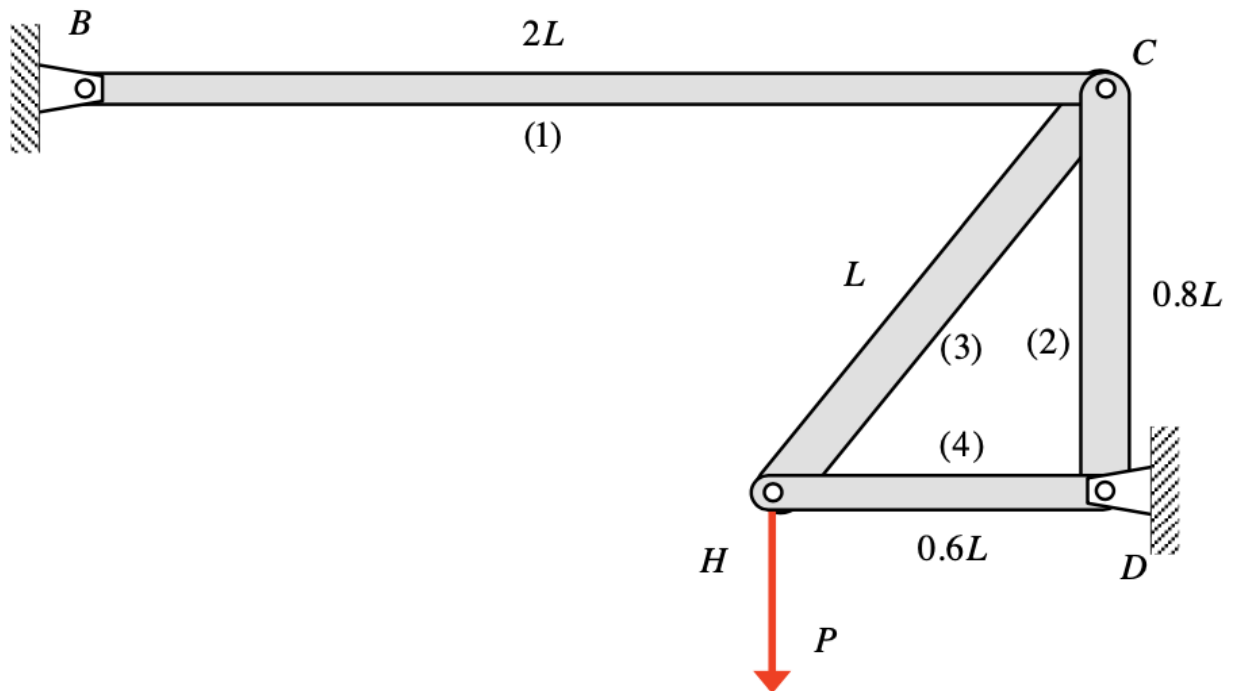

Figure 3: Truss for Problem 3
The truss shown below (*figure 3*) is supported by pin joints at B and D. Each member of the truss is made of the same material but has different cross-sectional areas: Member (1) - A, Member (2) - 2A, Member (3) - 2A, and Member (4) - A. If a force P acts downward at H,